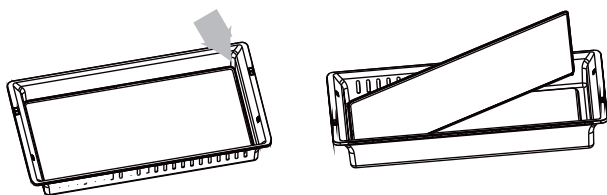

Figure 7
- 2) Lift one side with your hands and gently remove the plate (we recommend wearing work gloves). See Figure 7.